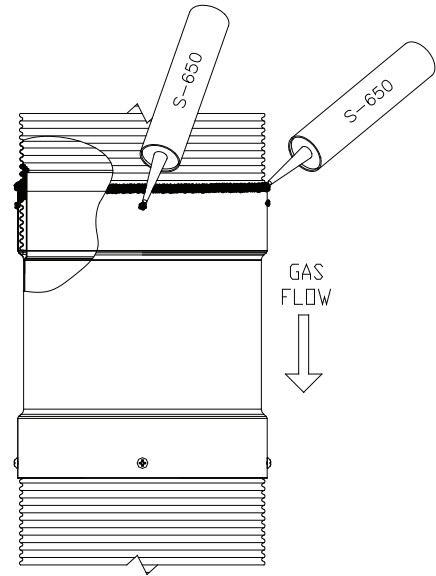

Figure 23 -Secure Seal Flex S-650 caulking
- 3.3. Push the adapter on the liner all the way in, until you can't see the mark made on the flexible liner earlier. Add a bead of the S-650 red caulking all around the outer junction of the adapter and the flexible liner to make sure everything is well sealed. Also add over the screw holes (Figure 23).